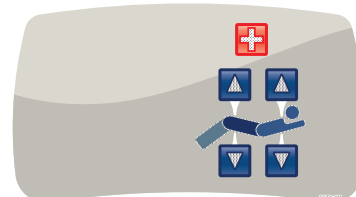

**Figure 1-134: Installing the optional patient pendant**
1. Slide the pendant into the molded pendant holder inside the foot end siderail handle (A) (Figure 1-134 on page 1-113).
2. Plug the pendant cable connector into the pendant connector that is located behind the foot end siderail (B) (Figure 1-134 on page 1-113).